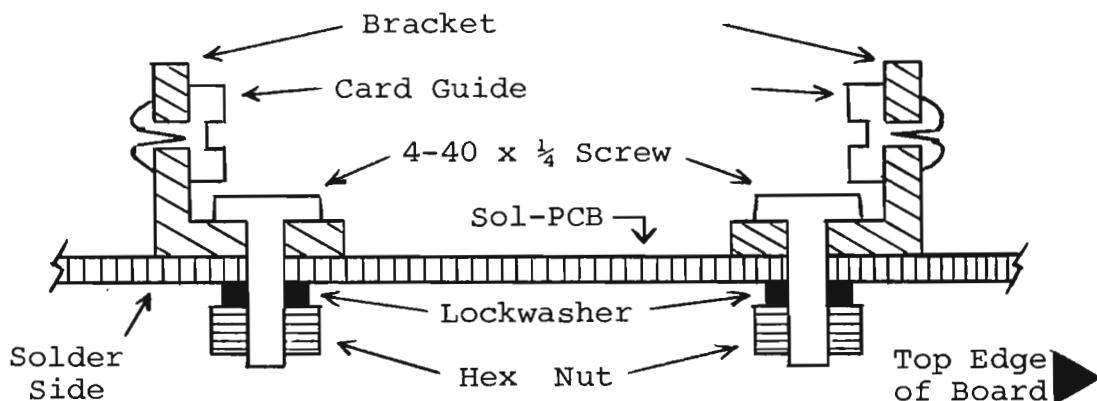

Figure 3-11. Personality module bracket/guide
- ( ) Step 45. See Detail D on Drawing X-6. Using 4-40 x 1/4 binder head screws, lockwashers and hex nuts, install two brackets for personality module in area to right of J5. Position brackets over the mounting holes as shown in Figure 3-11. Insert screws from front (component) side of board, place lockwasher on each screw on back (solder) side of board, start nuts and tighten.
- ( ) Step 46. Refer to Detail D on Drawing X-6. Attach plastic card guide to each of the brackets installed in Step 45. (See Figure 3-11.) Insert posts on guides into bracket holes and push in until they snap into place. Be sure open end of guide is away from connector J5.